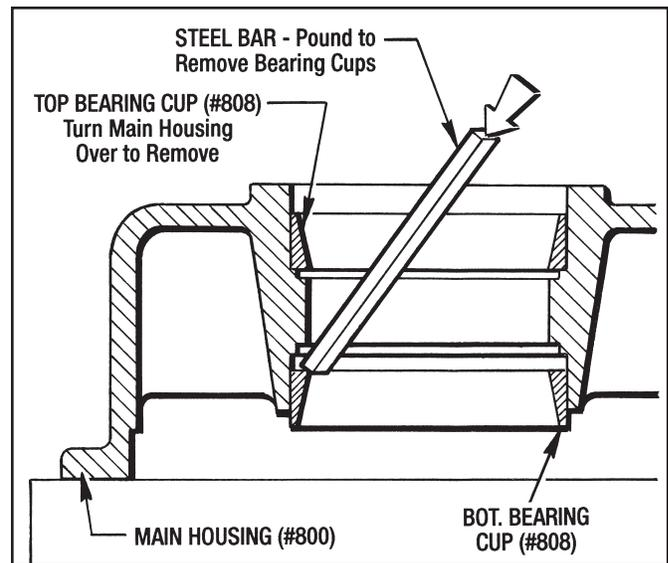

Figure 7.10 - Removing Bearing Cups (#808)
4. The (2) Bearing Cups (#808) are loc-tited into the Main Housing bores and will have to be pounded out with a straight bar as shown in Figure 7.10.